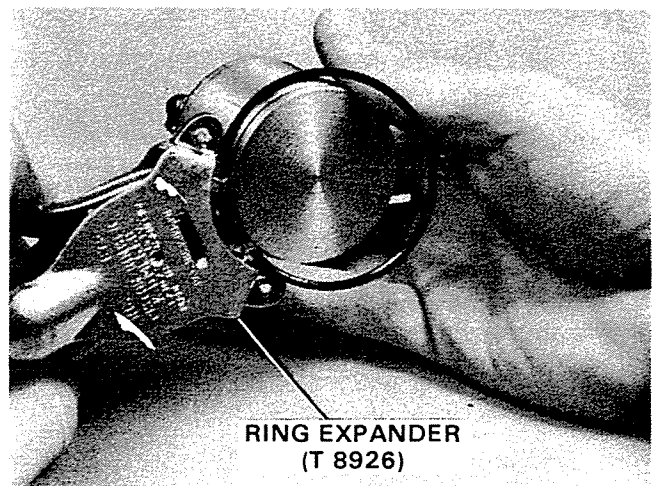

Figure 13. Removing Piston Rings.
- A. Remove rings from piston with ring expander. Special Tool No. T 8926. Figure 13.